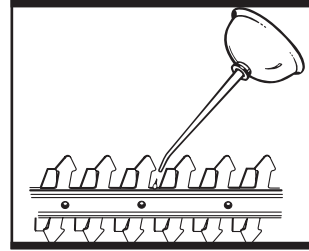

Fig. 7
- 1). Keep the blade (1) clean and free of debris. Remove trimmings.
- 2). Keep the blade (1) sharp to retain a good cutting performance. Replace a worn or damaged cutting blade with a new one of the same type.
- 3). Lubricate the blade (1) after each use to prolong the life span of cutting blade and product. Apply light machine oil along the edge of the cutting blade. (See Fig. 7).